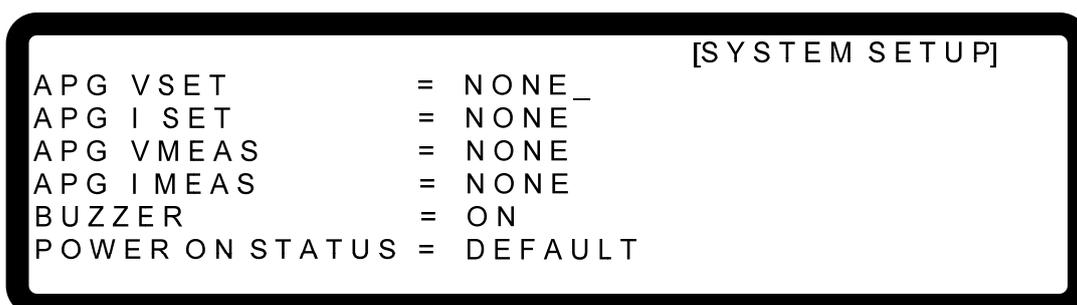

Figure 3-6
- Use “”, “” keys to move the cursor to the column to be set as Figure 3-6 shows.